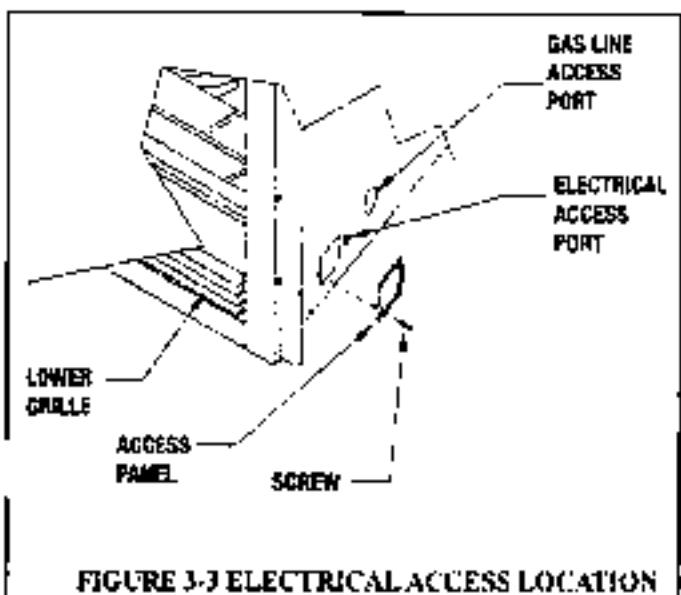

FIGURE 3-3 ELECTRICAL ACCESS LOCATION
In the Marco standing pilot with a fan kit and electronic ignition models, AC power must be connected to the power receptacle on the bottom right corner behind the access grille. Refer to Figures 3-3 and 3-5 for location.
1. Remove the screw and access panel cover and set them aside. Refer to Figure 3-3.